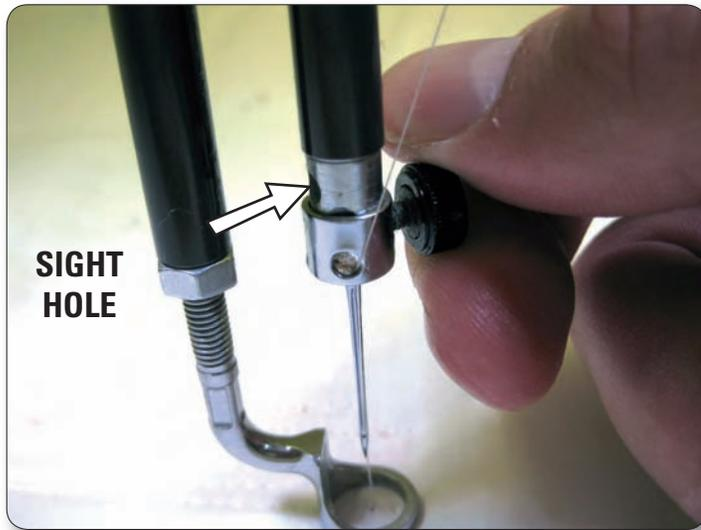

Figure 7
4. With the scarf (small ground out section/dip on the back side of the needle just above the needle eye) facing the rear hand wheel side of the machine, and the long groove down the front of the needle facing the bobbin case side (see Figure 7), push the needle all the way up into the needle bar – until it can go no farther. Look into the sight hole to verify that the butt of the needle reaches the top of the sight hole.
Important: Check the needle to confirm that it is fully inserted. The needle bar has a stop/sight hole above the needle bar clamp screw – make sure the needle is touching the top of the stop/sight hole (Figure 7). If it is not, the machine timing will be off and it may be possible for the needle to collide with internal parts causing damage not covered by warranty.